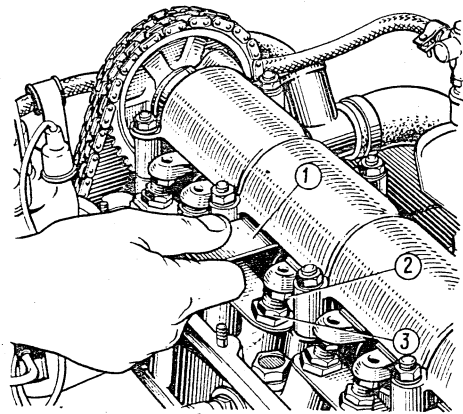

Fig.2-55. Checking the Lever-to-Cam Clearance:
- insert a flat feeler gauge A.95111 0.15 mm thick between the lever and the camshaft cam and turn the bolt in or out with a wrench, securing the bolt by the locknut until, with the locknut tightened, the feeler gauge goes in with a slight drag (Fig. 2-55);